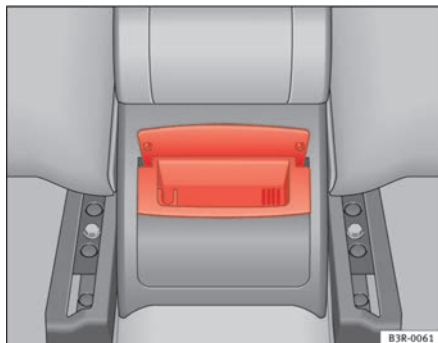

Fig. 126 Rear ashtray
- Take hold of the lid ⇒ fig. 126 and lift out the ashtray.